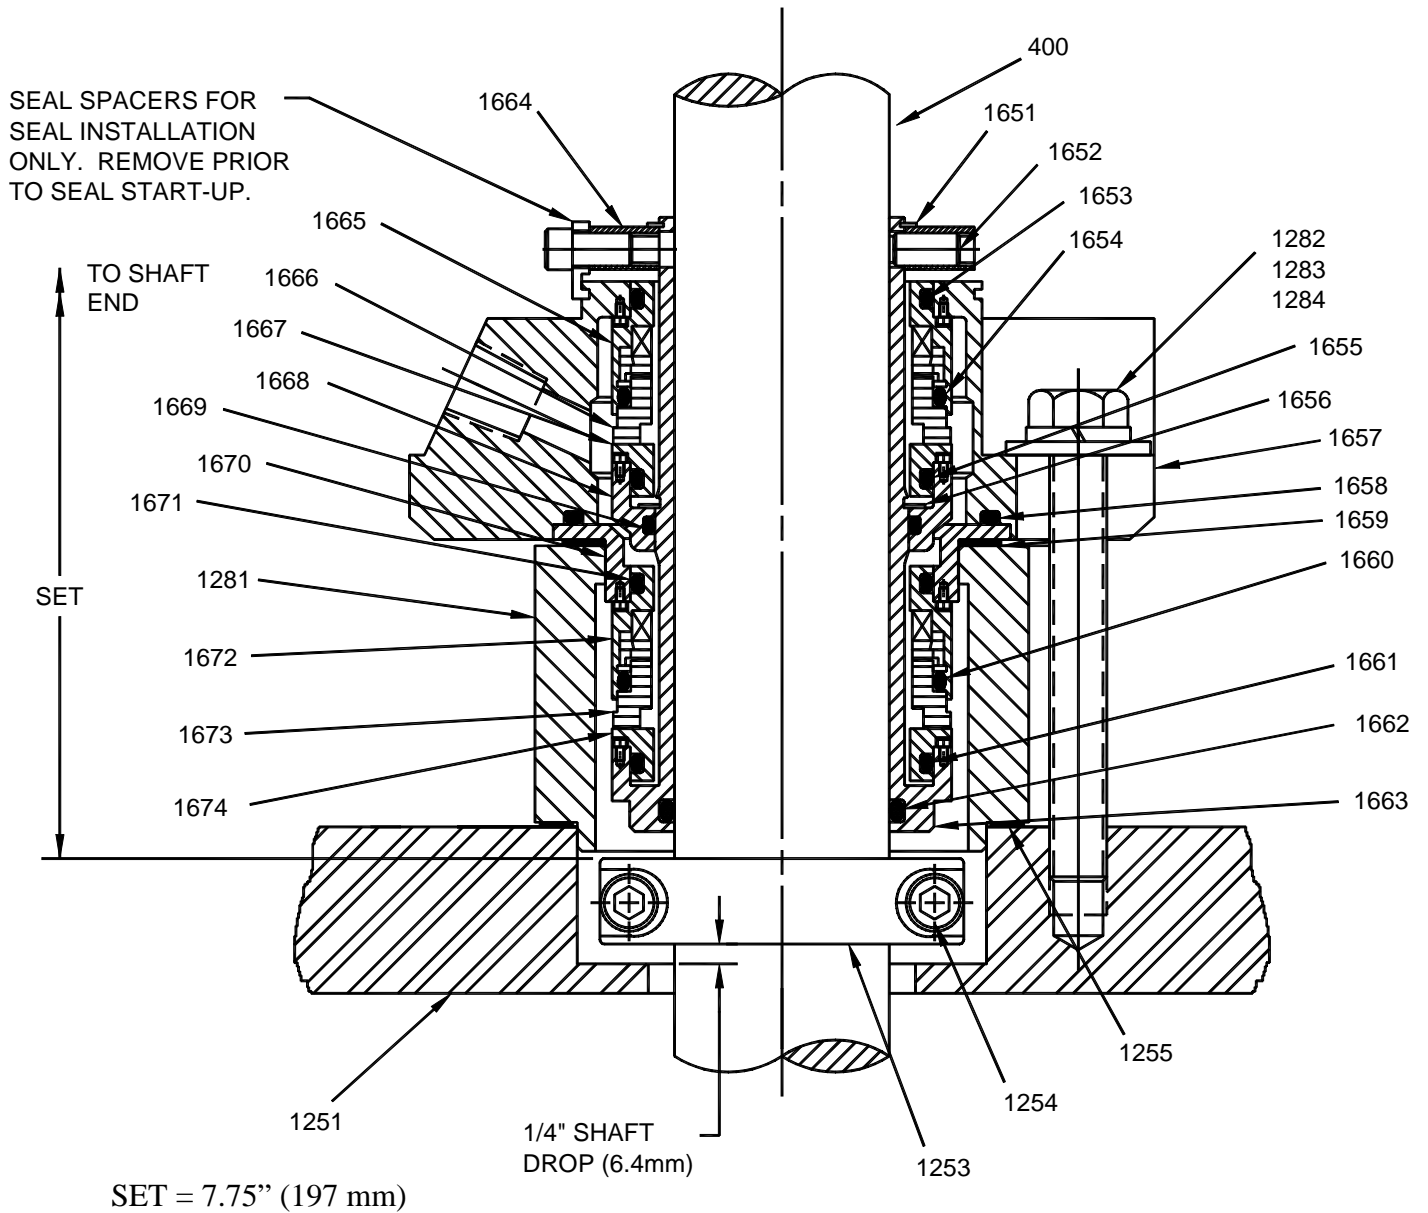

Figure 8: Model 30DTN/40DTN Seal, Crane 5620
6. Slide mechanical seal [1650] assembly into adapter piece [1281] (tenon fit). Orient fluid ports per mechanical seal assembly drawing included with unit. Install bolts, lockwashers, and flatwashers [1282, 1283, 1284]. Tighten bolts evenly. Do not overtighten. Refer to *Figure 8, page 22*.